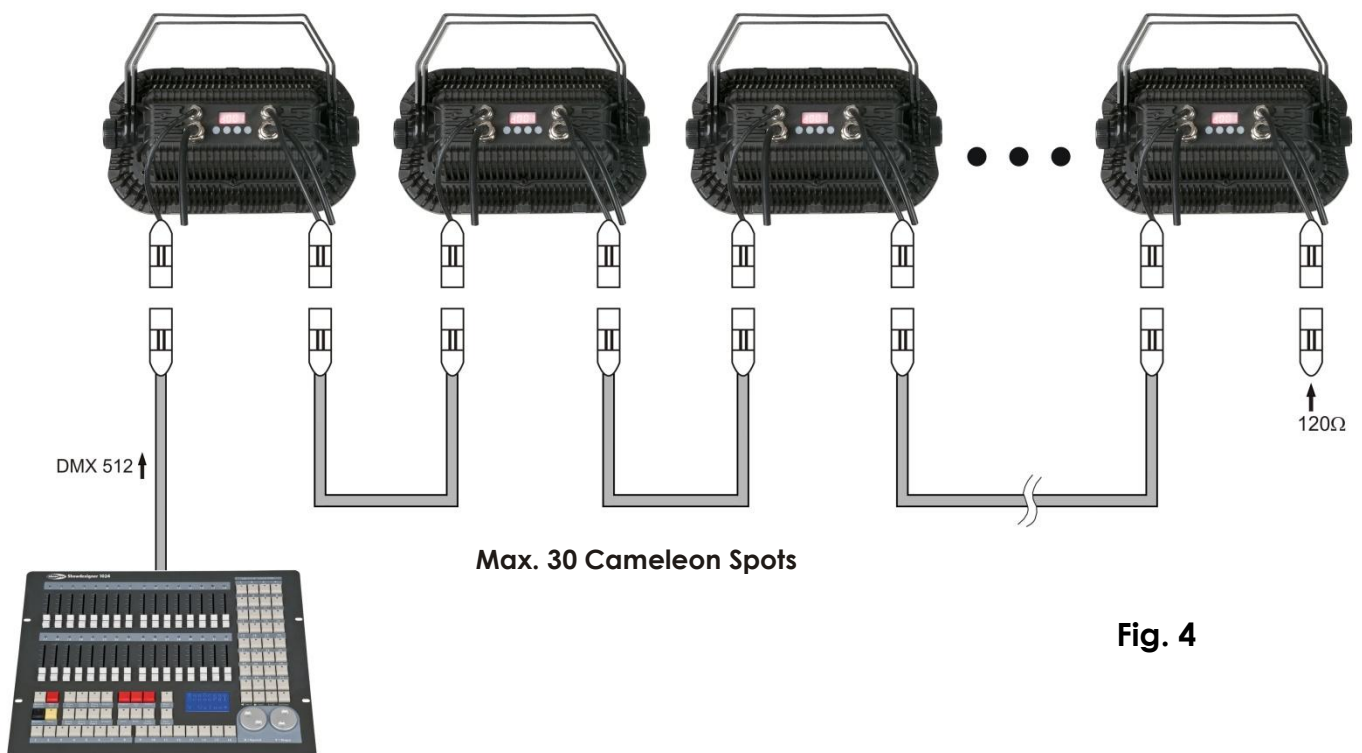

Fig. 4
4. Link the units as shown in (figure 4), Connect a DMX signal cable from the first unit's DMX "out" socket to the second unit's "in" socket. Repeat this process to link the second, third, and fourth units.